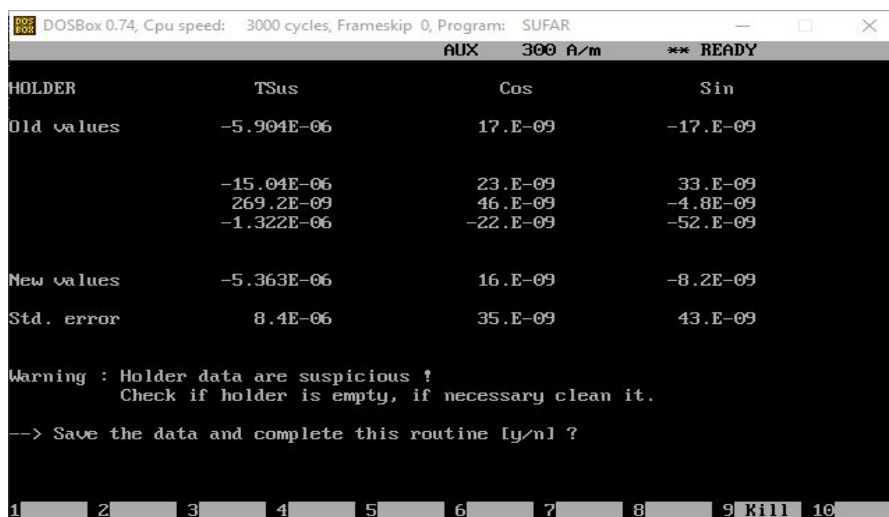

Figure 8 Holder Correction window after measurement is complete.
4. When the measurement is complete, the display will prompt the user to save (**Figure 8**).